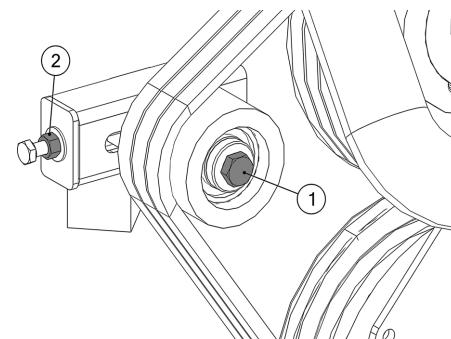

Figure 28 - Tensioner Pulley Assembly
2. Use a 19 mm spanner to loosen the bolt in the centre of the tensioner pulley until the pulley is able to slide with minimal wobble (Figure 28, Item 1).
3. Turn the nut on the end of the tensioner pulley slider until the correct belt tension is achieved (Figure 28, Item 2). (Refer to Section 5.11 "V-Belt Tensioning Procedure" on page 46.)